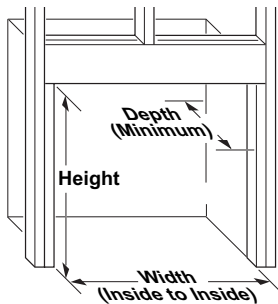
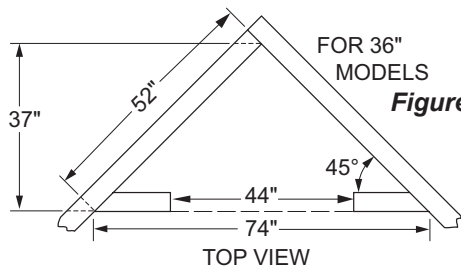

Figure 4a
Figure 4b
1. Frame in rough opening. The fireplace framing must be constructed of steel stud material. Steel studs are provided and are permanently fixed amount the perimeter of the unit. Use dimensions in Table 1 and rough opening layout in Figure 4a. Adjust framing so that fireplace is flush with finished wall surface. If installing in a corner, use dimensions in Figures 4b and 4c for rough opening.